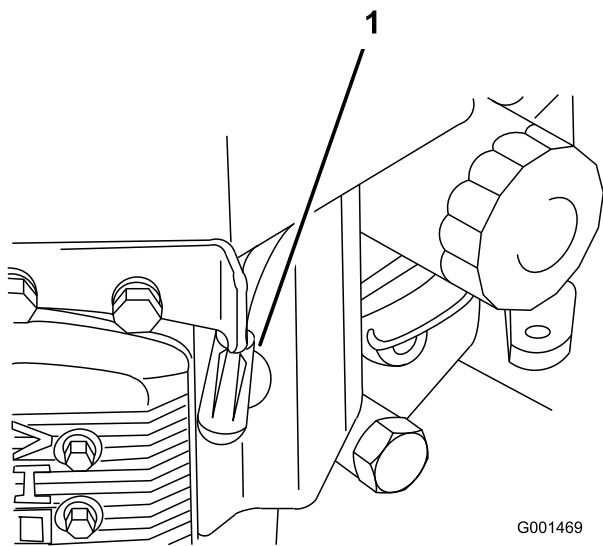

Figure 31
3. Disconnect the wires from the spark plugs (Figure 31).